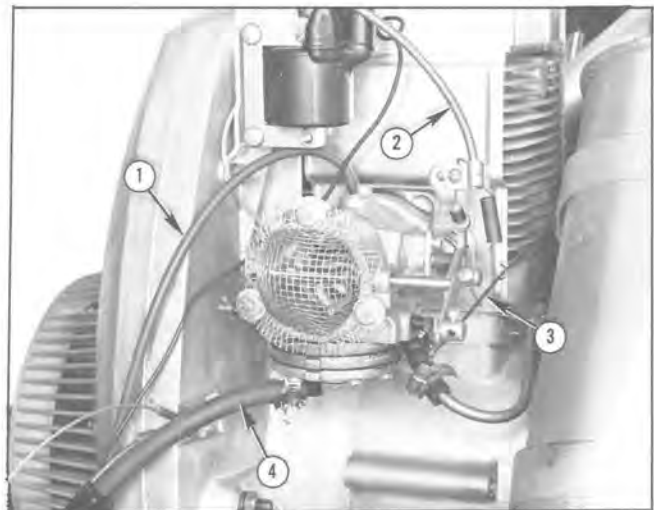

Fig. 13 — View of Carburetor Mounted on Engine (L 380 Engine)
2. Replace piston, piston rings, piston pin and/or bearing as follows (see Figs. 13, 14, 15, 16, 17, 18, 19 and 20):